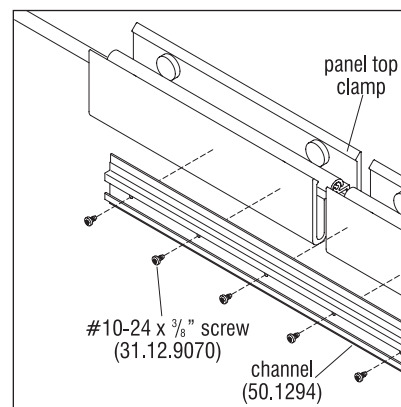

Figure 3 - Channel to Panel Clamp Detail
- To mount the sliding door track (50.1903), if not previously completed, start by installing the additional top clamps (study page 42) to the top of the adjacent panel(s) which will receive the channel and door track, then re-install the panel(s). Identify and locate the channel (50.1294) which will install to the additional panel top clamps on the adjacent panel (Figures 3 & 4).